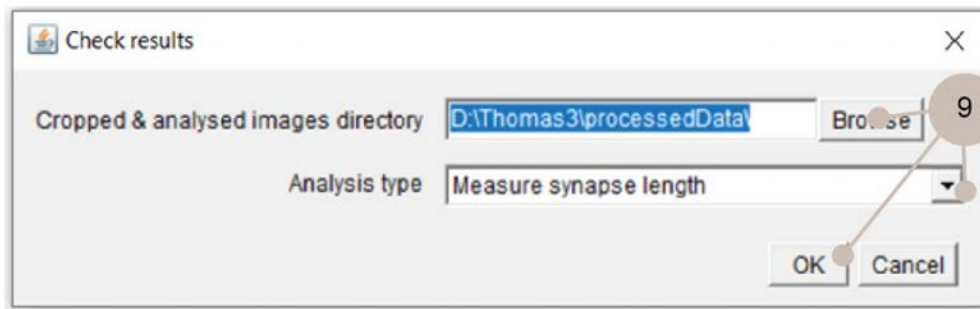

Figure 5.11. The check results menu
**STEP 9.** To control the analysis accuracy, whenever the save ROIs option was selected, use the “Start checking results” in the main meiosis bar. The “Check results” menu pops up (figure 5.11). If you just run the macro, then the default folder and method are OK. If you control afterwards the macro’s results, set both folder and “Measure synapse length”.